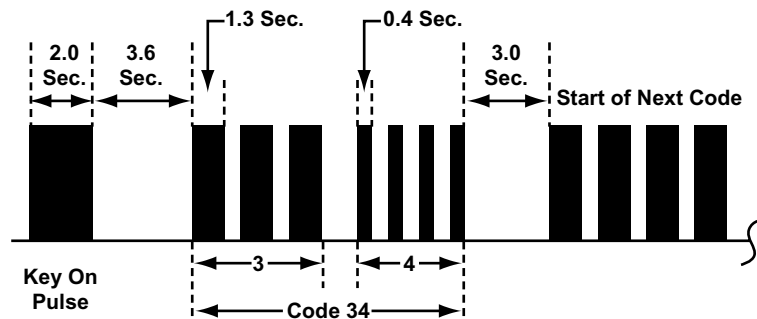

Figure 8-31 Honda ABS Code Type 04a
- Type 04a, see Figure 8-31 and Table 8-8 on page 78